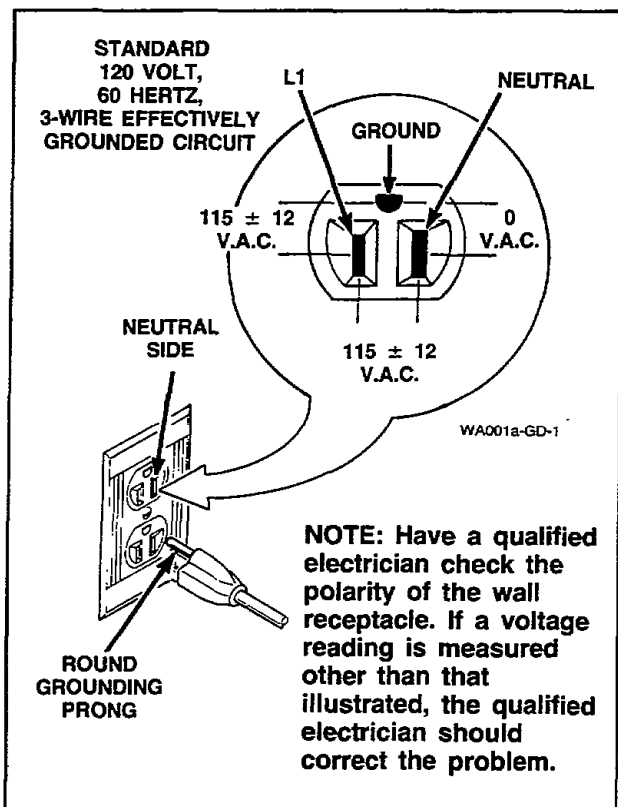

Figure 59
- The three-prong grounding plug on the power cord should be plugged directly into a polarized three-slot effectively grounded receptacle rated 110/120 V.A.C. 15 or 20 Amp. See *Figure 59* for determining correct polarity of the wall receptacle.
After connecting the washer to the electrical supply, close the loading door and start the washer (refer to the OPERATING INSTRUCTIONS, supplied with washer). If the washer starts (WASH light will come on), but you have intermittent mixing valve or motor operation, it could mean the polarity or grounding of the outlet is incorrect. Have a qualified electrician check out the polarity and grounding and correct the problem, see *Figure 59*.